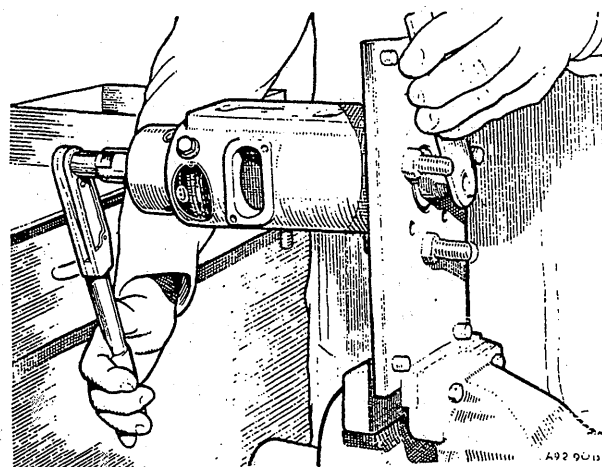

Fig. C.11
- (51) Hold the drive hub with tool 18G 659 and, using spanner 18G 634, tighten the transfer pump rotor to the torque figure given in 'GENERAL DATA' (see Fig. C.11). Fit the transfer pump liner and insert the transfer pump vanes into their slots.
- (52) Ensure that the locating peg is in position 'C' in the pump end plate and seat the piston retaining spring in the bottom of the regulating valve bore.
- (53) Fit a new seal washer to the small-diameter end of the regulating valve sleeve and fit the piston into the sleeve. Insert the regulating spring and peg into the large-diameter end of the sleeve and place the transfer pressure adjuster on the top of the sleeve. Fit the sleeve retaining spring onto the pressure adjuster and pass the filter, small end leading, over the spring and onto the shoulder of the valve sleeve. Insert this assembly, valve sleeve first, into the bore of the end plate and fit the fuel inlet connection and washer.
- (54) Place a new sealing ring in its recess in the hydraulic head face and fit the end plate to the head, engaging the locating peg with the slot in the transfer pump liner. Tighten the end plate screws and studs to the torque figure given in 'GENERAL DATA', then tighten the fuel inlet connection to the torque figure given in 'GENERAL DATA'.
- (55) Using spanner 18G 646, tighten the cam advance screw to the torque figure given in 'GENERAL DATA' and check the cam ring for freedom of rotation.
- (56) Fit new 'O' rings to the advance unit end plug and spring cap, using protection cap 18G 640 to pass the rings over the threads. Screw the end plug finger-tight into the end of the advance unit where the fuel duct enters the bore. Fit the piston into the advance unit, with its counterbored end at the open end of the housing, and place the two springs in position in the piston. Place the 1.0 mm. shim washer inside the spring cap and screw the cap finger-tight into the housing. If the spring cap or end plug are renewed, ensure that the new part has the same identification letter as the component it replaces. Unmarked components should be used to replace unmarked components.
- (57) Fit a new 'O' ring under the head of the hydraulic head locating bolt, using protection cap 18G 639. Position the non-return valve ball in the side of the head locating bolt and fit the bolt to the advance unit. Using assembly cap 18G 647, fit a new inner 'O' ring to the shank of the locating bolt, and place the plain washer on top of the 'O' ring.
- (58) Place a new advance unit joint washer on the pump housing with the straight side of the 'D'-shaped hole at the drive end of the pump; to ensure sealing, this joint washer should be fitted dry. Position the advance unit on the pump, fit a new aluminium and rubber washer to the stud, and fit the cap nut.